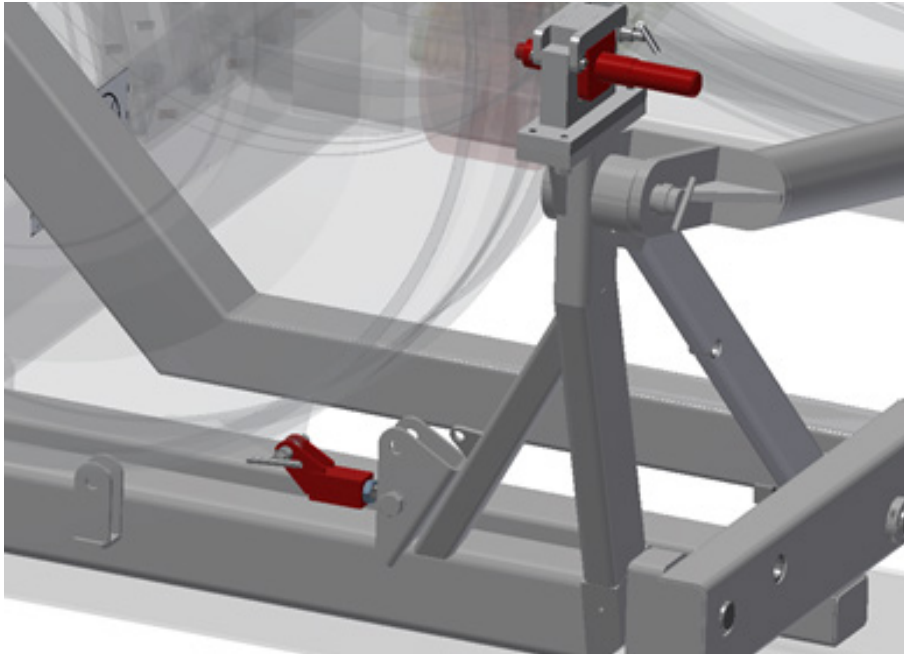

Figure 4.5-5
- 9). Install the H3 aft sway link adapter AM-1928-F11 by removing the securing pin rotating the sway link to align with the engine mount position. The sway link can be adjusted by loosening the jam nut and rotating the link to increase or decrease the reach. Figure 4.5-5.